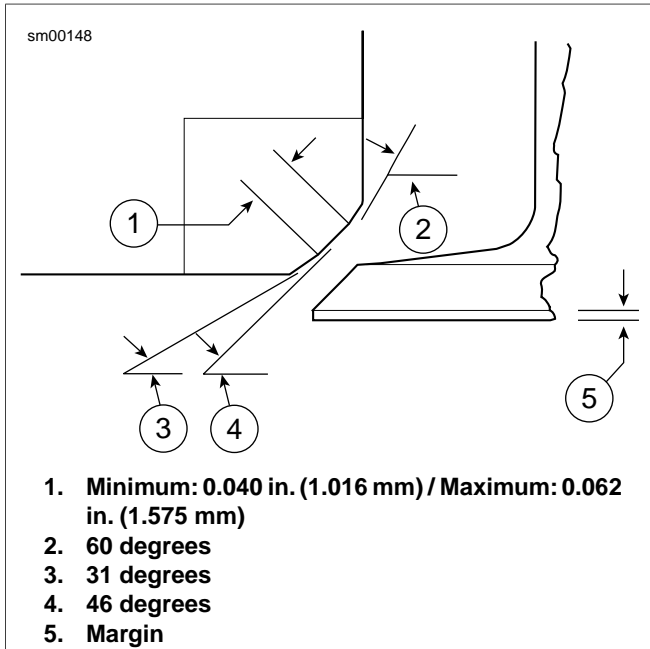

Figure 3-91. Valve and Seat Dimensions
- Do not remove any more metal than is necessary to clean up and true the valve face. Removing metal reduces the service life of the valve. The amount of grinding needed to retrue the valve is a clear indication of its condition. Discard the valve if it cannot be quickly refaced while maintaining a good margin. See Figure 3-91. Valves that do not clean up quickly are either warped, excessively worn or too deeply pitted to be used.